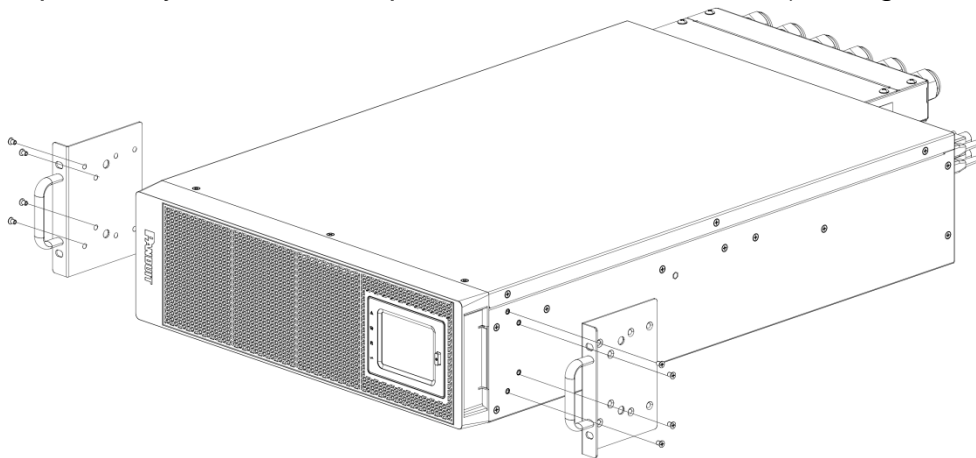

Figure 22: Install the Mounting Bracket
9. Align the mounting brackets with the screw holes on each side of the UPS and secure with the previously removed Phillips Flat Head M4x8 screws (see Figure 22).